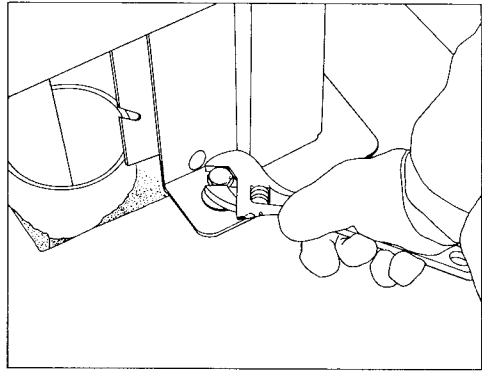
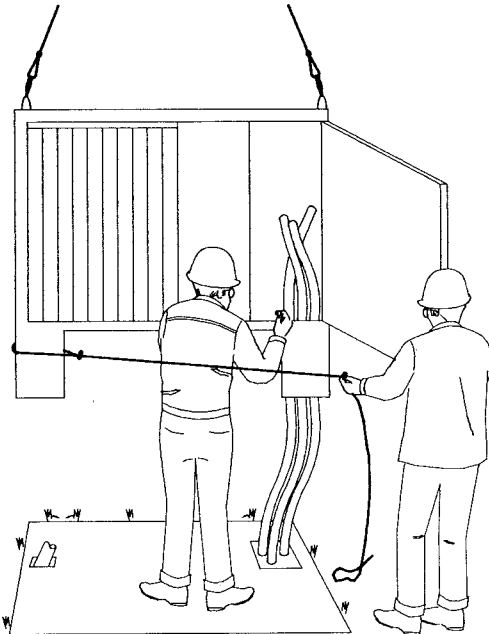
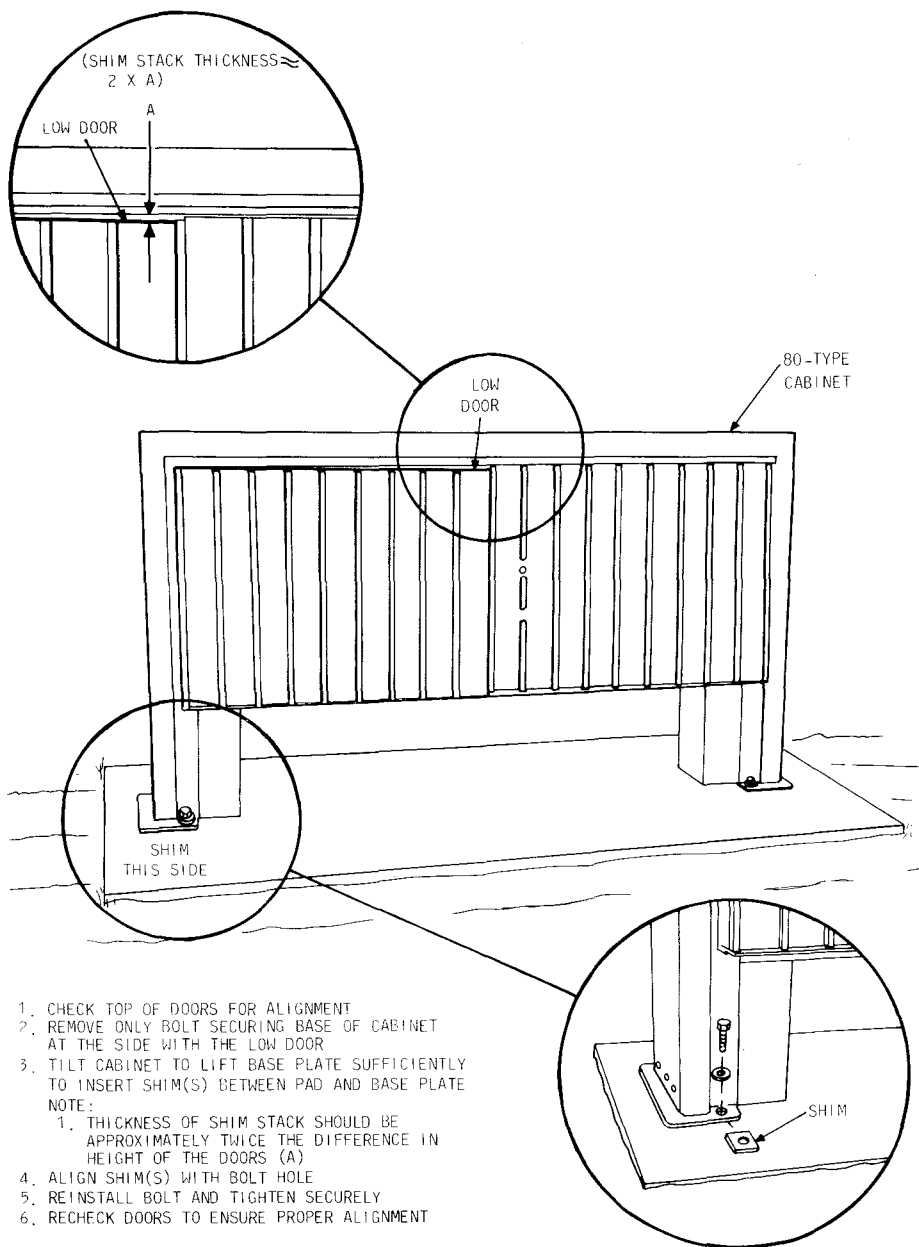

Fig. 22—Bolting Cabinet to Pad
Fig. 21—Lowering Cabinet Onto Pad
Fig. 23—Door Alignment Procedures—Installing Shims
5.09 Secure a tag line around one cabinet leg. Raise the cabinet and position it over the pad with the cabinet leg through which the cable will enter over the cable/conduit in the pad. Guide the cables and the No. 6 ground wire through the cable entrance as the cabinet is slowly lowered onto the pad (Fig. 21). Center the mounting holes in the cabinet legs over the anchors in the pad. Secure the cabinet with the 1/2-13 cap screws furnished with the cabinet (Fig. 22). Check the top of the cabinet doors to ensure proper alignment. If the cabinet doors are out of alignment, shim as illustrated in Fig. 23.